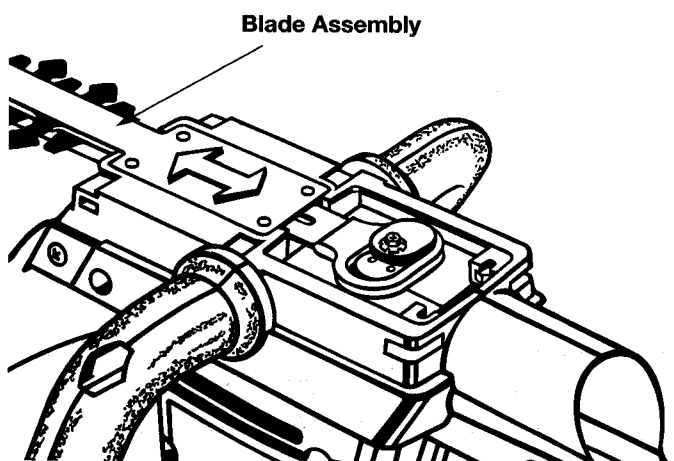

Fig. 12
6. Check alignment of new blade assembly (Fig. 12).
7. Position new blade assembly over cam assembly, then continue to manually slide blade assembly until screw holes in blade assembly align with screw holes in motor housing (Fig. 12).